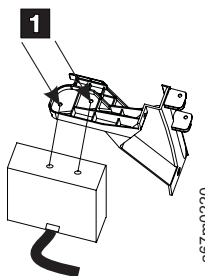

Figure 104. Aligning and attaching the Bar Code Scanner
- ___ 2. Align the two screw holes on the top of the bar code scanner (**1** in Figure 104) with the screw holes on the I/O door bracket.
- ___ 3. Attach the bar code scanner to the bracket using the two screws that were saved when removing the bar code scanner. See Figure 104.